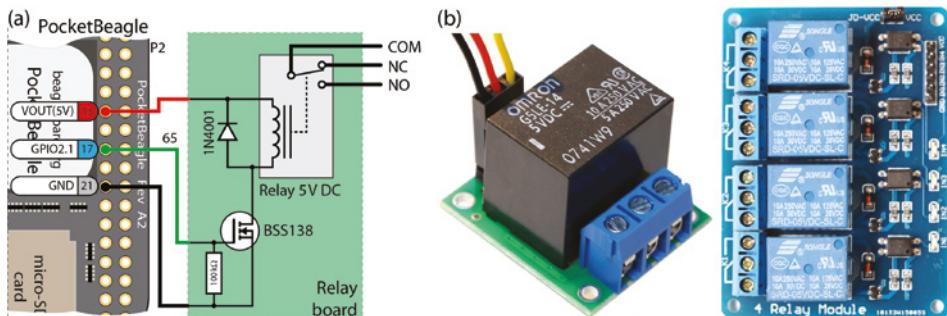

Figure 9-9: (a) Controlling a relay using the PocketBeagle; (b) example relay breakout boards
Figure 9-9(a) illustrates the type of circuit that can be used to interface the PocketBeagle to a relay. It is important that the relay chosen is capable of being switched at 5V and that, like the motor circuit in Figure 9-3, a flyback diode is placed in parallel to the relay’s inductive load to protect the FET from damage. Pololu (www.pololu.com) sells a small SPDT relay kit (~\$4), as illustrated in Figure 9-9(b), that can be used to switch 8A currents at 30V DC using an Omron G5LE power relay. The breakout board contains a BSS138 FET, the flyback diode, and LEDs that indicate when the relay is switched to enable—that is, close the circuit connected to the normally open (NO) output.
The relay can be connected to a regular GPIO for control. For example, if the relay were connected as shown in Figure 9-9(a) to P2.17 (GPIO2.1), which is GPIO 65, then it can be switched using the following:
WARNING The circuit in Figure 9-9(a) is intended for connection to low-voltage supplies only (e.g., 12V supplies). High voltages can be extremely dangerous to human health, and only suitably trained individuals with appropriate safety equipment and taking professional precautions should wire mains-powered devices. Suitable insulation, protective enclosures, or additional protective devices such as fuses or circuit breakers (possibly including both current-limiting circuit breakers and earth-leakage circuit breakers) may be required to prevent creating either a shock or a fire hazard. Seek advice from a qualified electrician before installing mains-powered home automation circuitry.